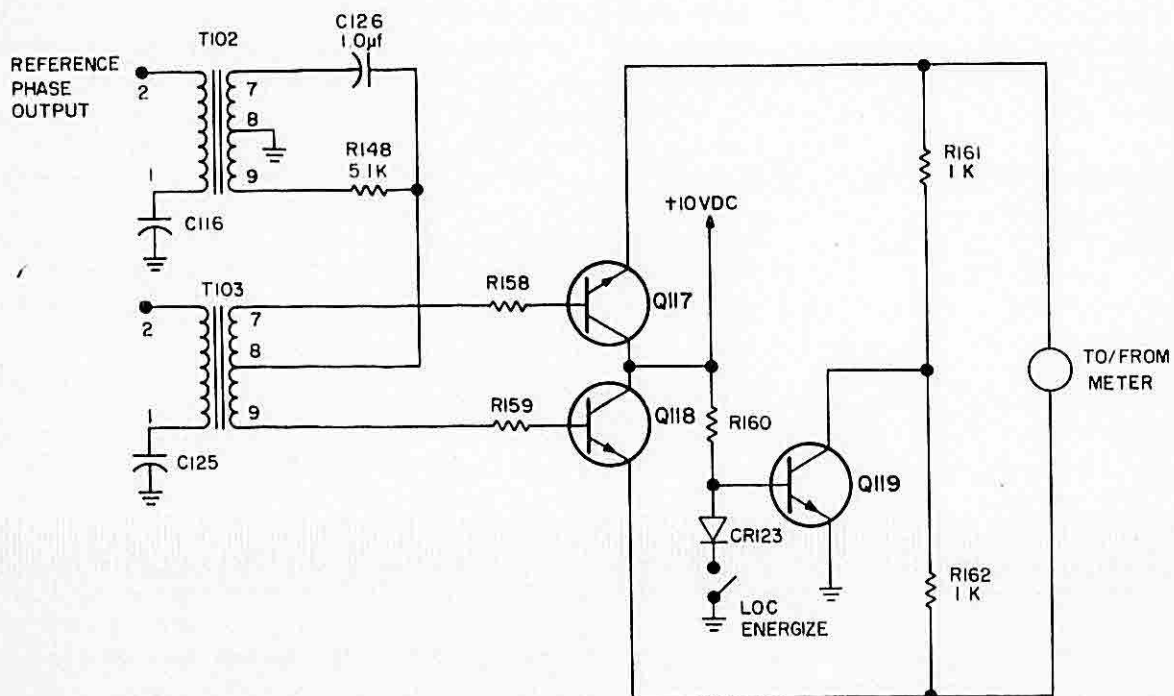

FIGURE 4-10 TO-FROM COMPARATOR
4.5.5 TO-FROM FLAG CIRCUITRY (Figure 4-10)